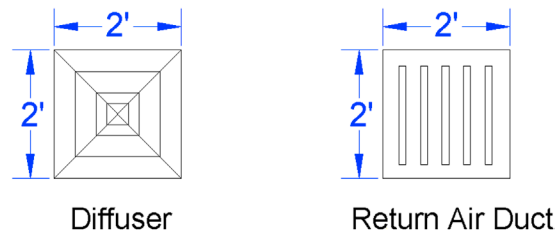

FIGURE 16.16 Diffuser and return air duct symbols.
Step 2. Create some HVAC symbols, as shown in Fig. 16.16. Make blocks out of them for easier handling. Be sure to be on that object's layer before making a block.